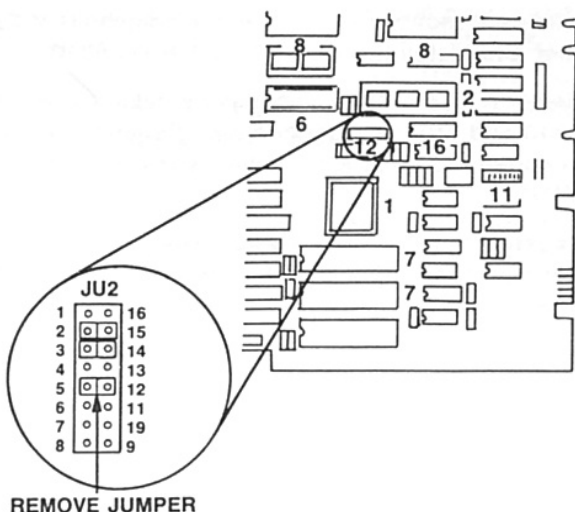

Figure G-2. Two-Pin Motherboard Jumper
4. Remove the 2-pin motherboard jumper at location JU2 pins 5-12 and save. This jumper can be used in the future if the indigenous Video Display Controller is to be reconfigured. A detailed view of the jumper and the pins is shown in Figure G-2.